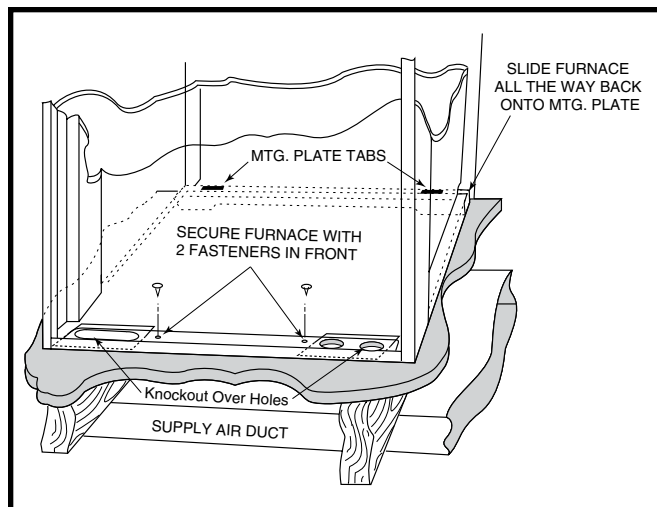

Figure 16. Cabinet Furnace on Supply Air Duct
4. Secure front with one (1) fastener at each corner. See Figure 16.